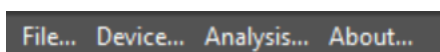

Figure A.3. Main menu of "Module-1" SW
5.3 The main menu of the “Module-1” SW (top row in the main window) contains 4 sub-menus (see Figure A.3):